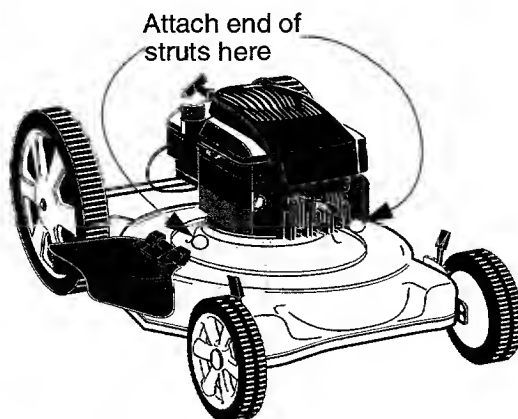

FIGURE 9
- Insert carriage bolt up through hole in deck beside the engine and through the strut. Secure with lock washer and hex nut from the hardware pack. See Figure 9.